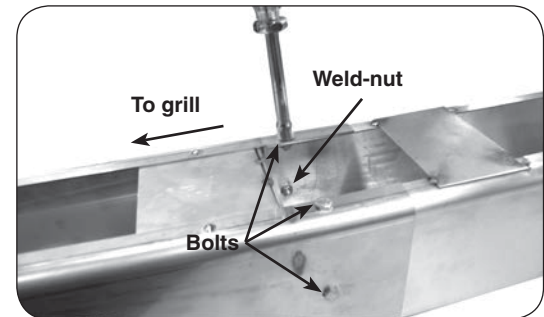

Fig. 18-2 Fasten extension to post
2. From outside the joined post and extension, insert one of the 1/4 X 20"-5/8 bolts (supplied) into each of the five (5) bolt holes and tighten each using a 7/16" socket driver or wrench (see Fig. 18-2).